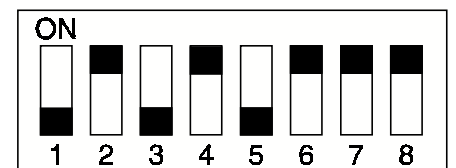

Fig. 3
6. Turn off the power, and set the DIP switch (SW103) on the finisher controller PCB as shown in Figure 3.